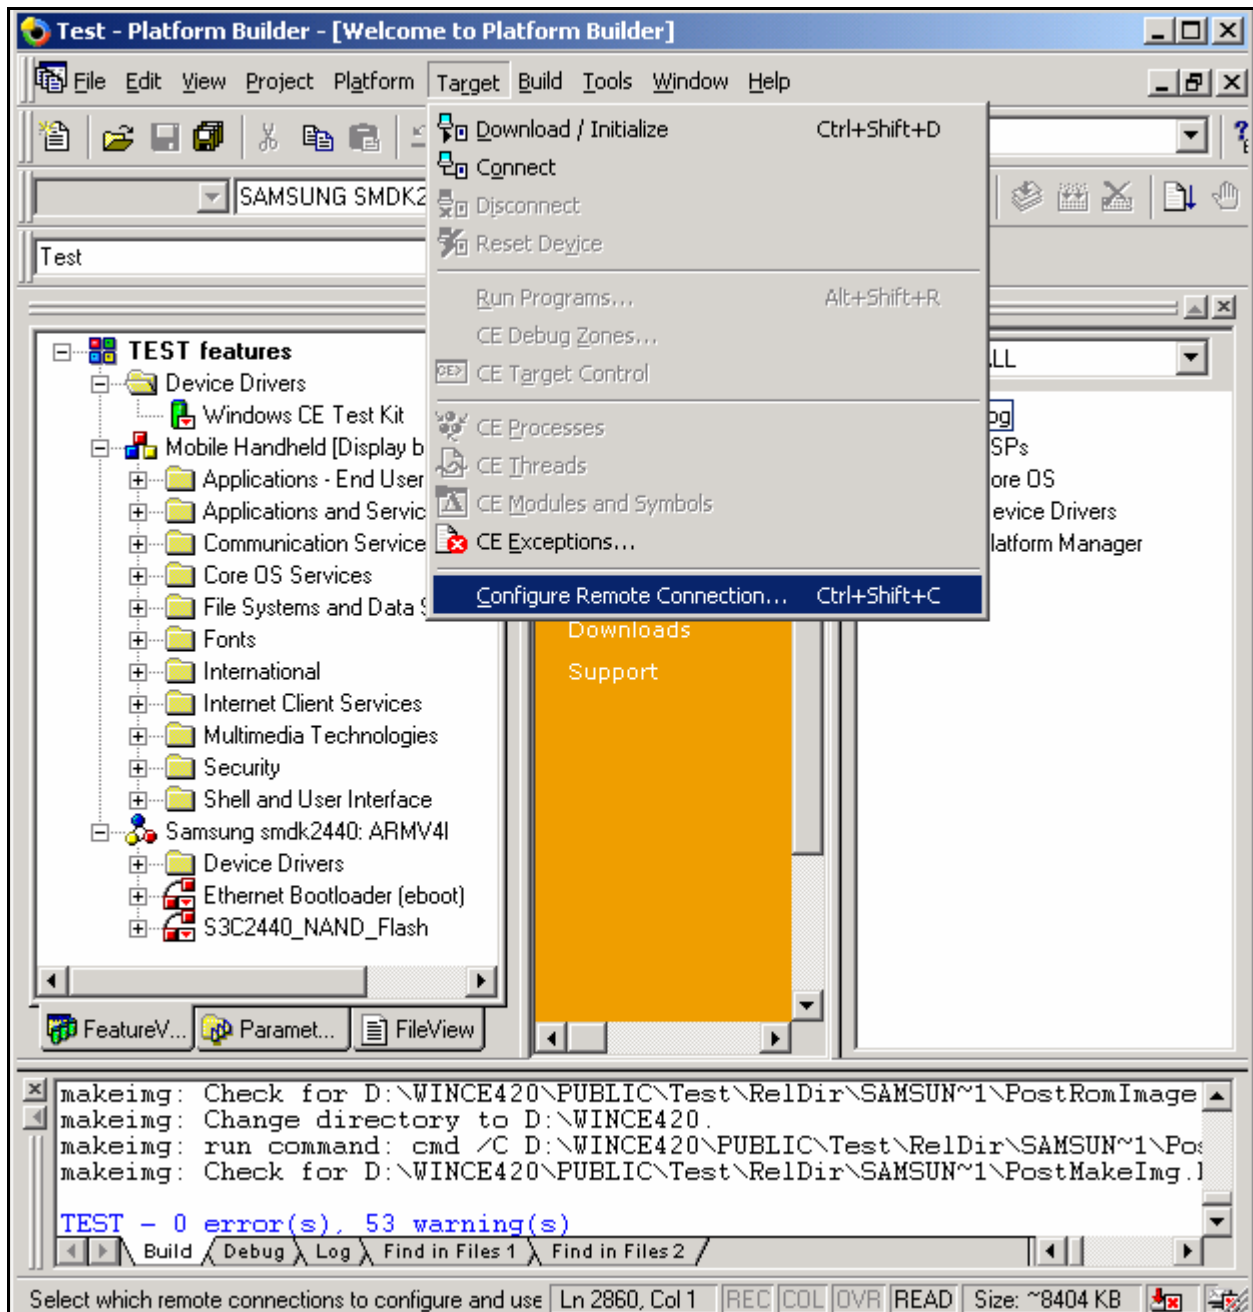
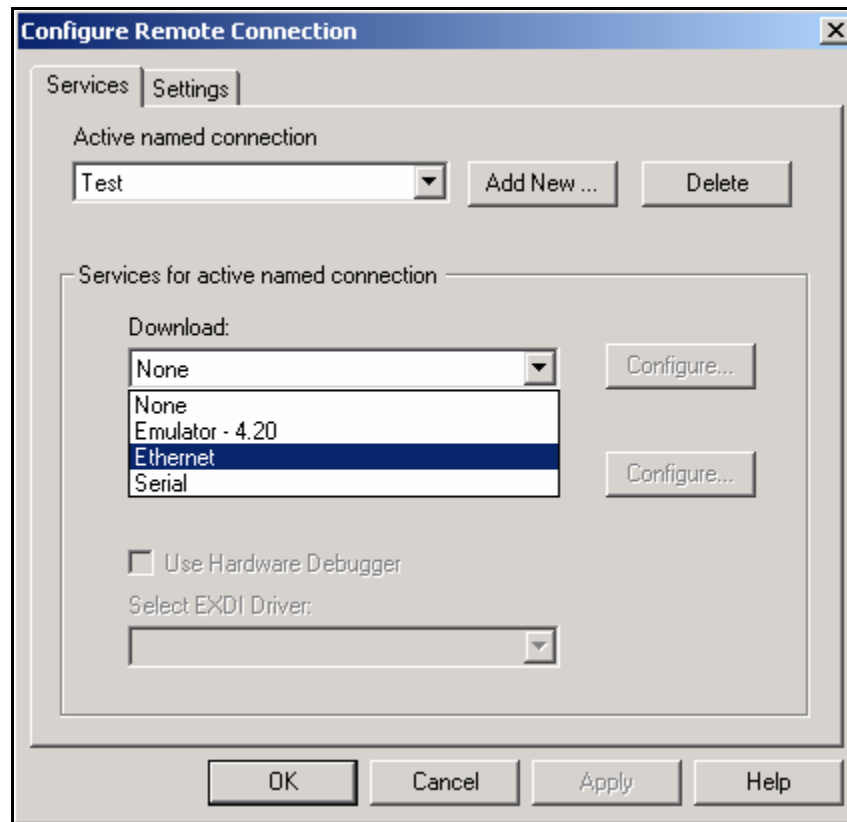

Figure 4-9 Configuring Remote Connection
Figure 4-10 Configure Remote Connection - Download
13. In the Platform Builder window, please select 'Configure Remote Connection...' option from the 'Target' menu as shown below in the figure 4-9. The Configure Remote Connection window will appear on your screen as shown in the figure 4-10.